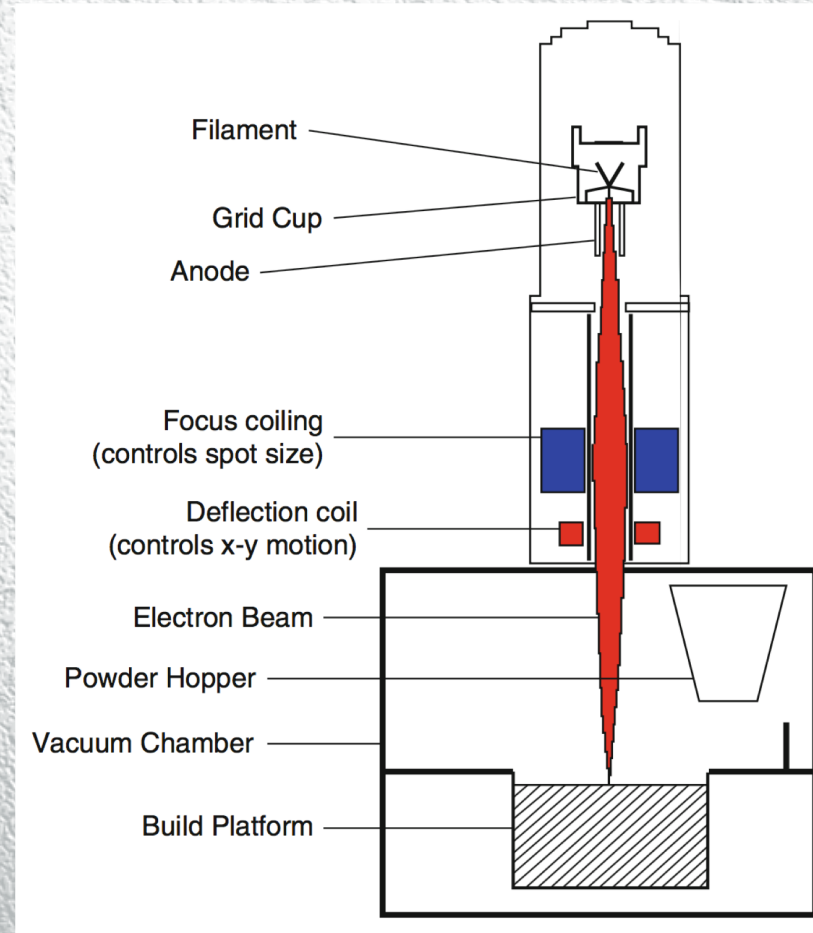

**Fig. 5.9** EOSint Laser Sintering Schematic
- [Fig.5.1, Fig.5.5, Fig.5.6, Fig.5.11, Fig.5.9, Fig.5.13, Fig.3.1 ]Gibson, Ian, David Rosen, and Brent Stucker. *Additive manufacturing technologies: 3D printing,rapid prototyping, and direct digital manufacturing*. Springer, 2014.